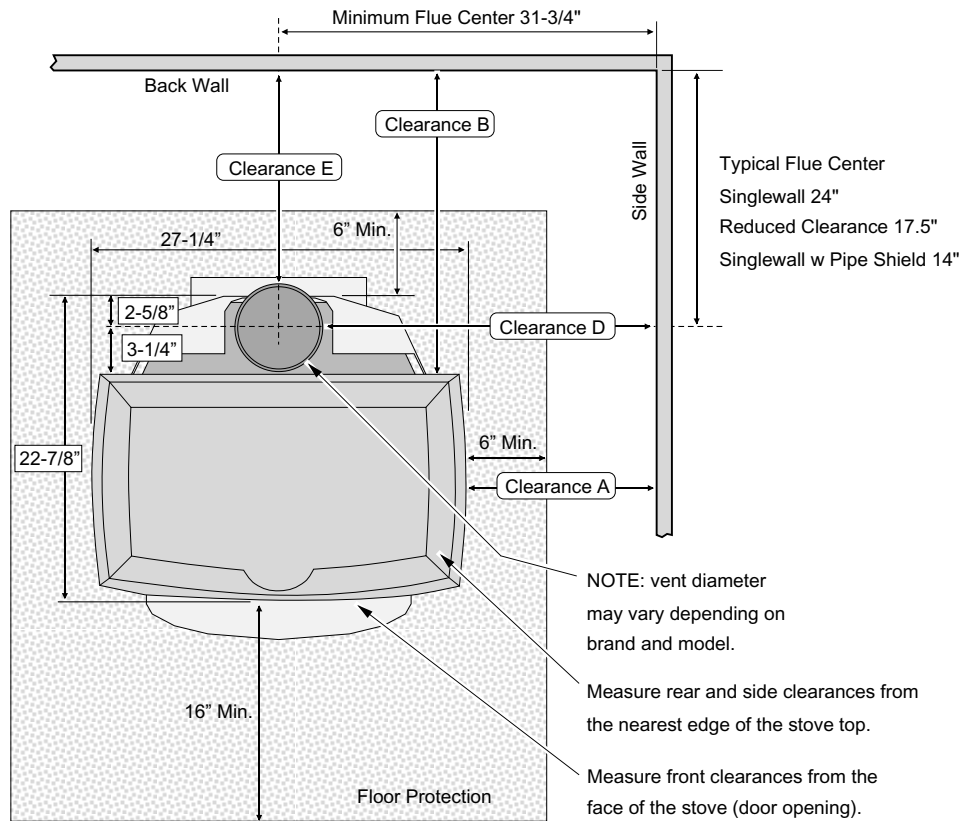
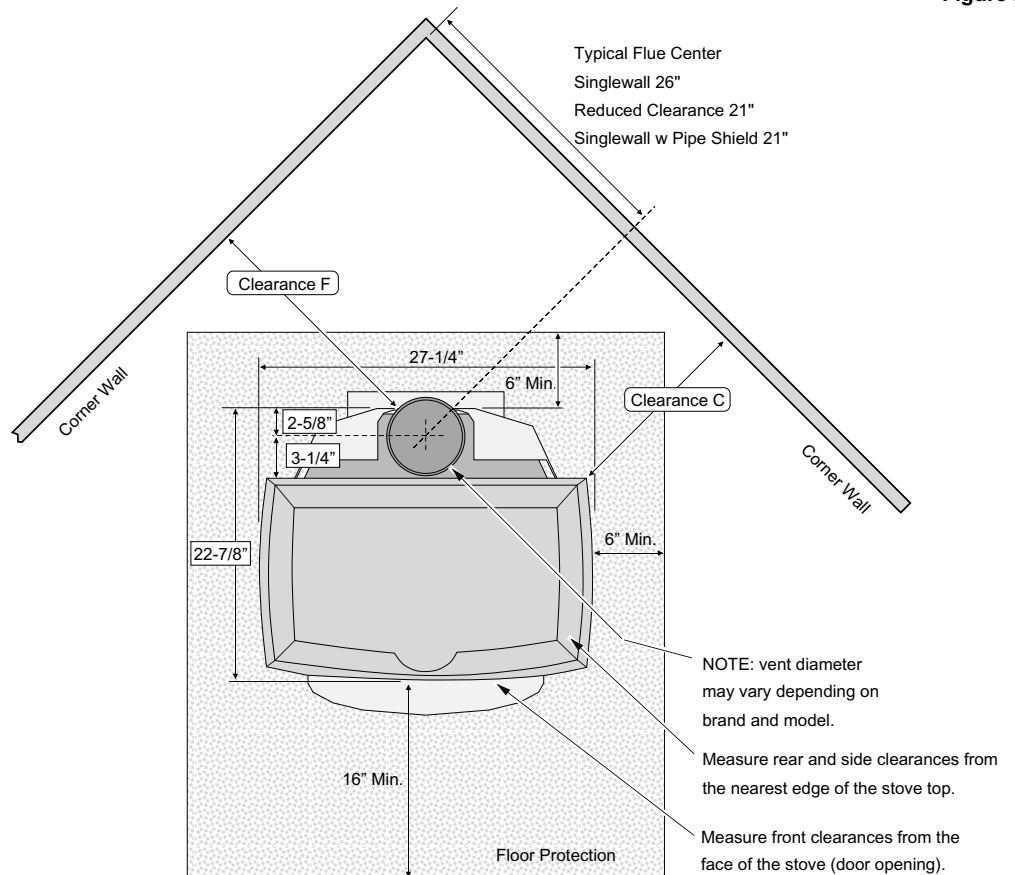

Figure 2
Figure 3
- Floor protection must extend 6" to the sides and rear of the stove and 16" to the front of the stove 39.25" wide by 44.875" deep - see Figure 2 and Figure 3).
- The following clearances must be met (see Figure 2 and Figure 3)